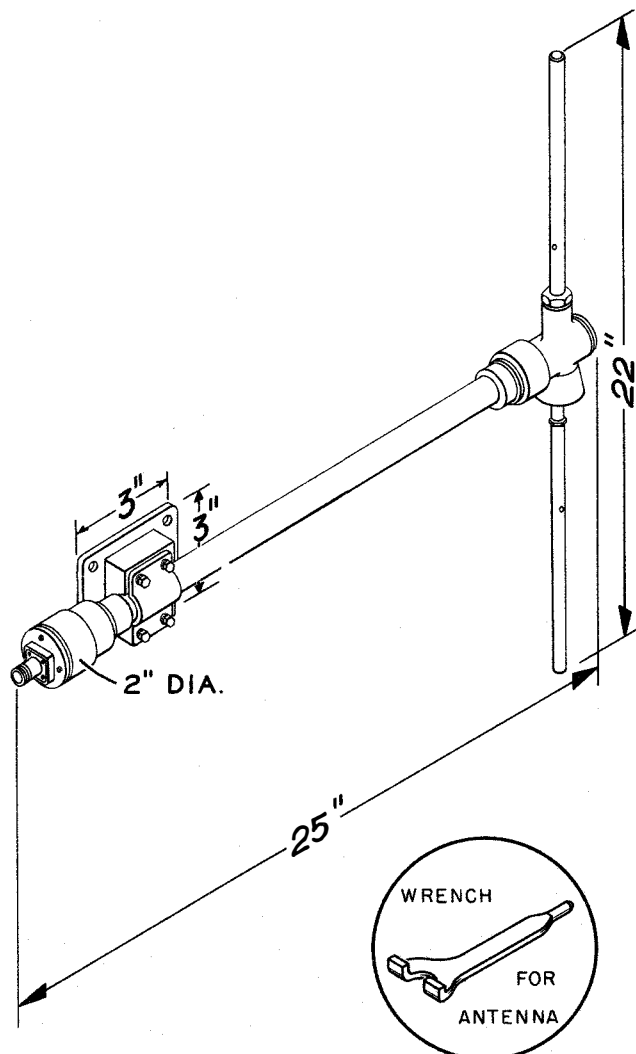

Figure 3-5. Shipboard Antenna CRV-66147
Step 4. Insert the antenna body in the rounded recess in the base of the bracket and replace the cap and four capscrews. Slide and rotate the antenna in its mounting until the connector end is adjacent the clamp and the insulated radiating rod is pointing down, as shown in Figure 3-5, then tighten the cap into place.
(4) INTERCONNECTIONS.